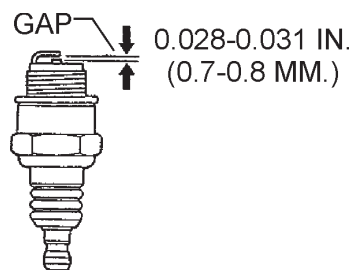

Figure 23. Spark Plug Gap
1. Remove and clean the spark plug (Figure 23).